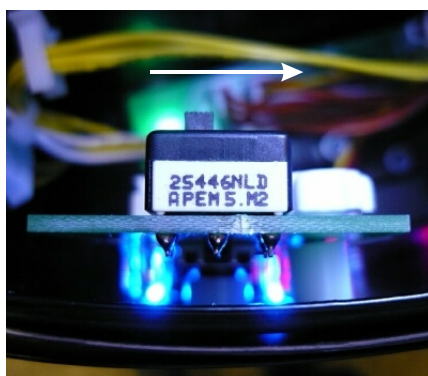

Fig 8
2. Slide the Dil Switch on the rear of the Push Button PCB (behind the Dispense Panel area) from left to right (Fig 8).